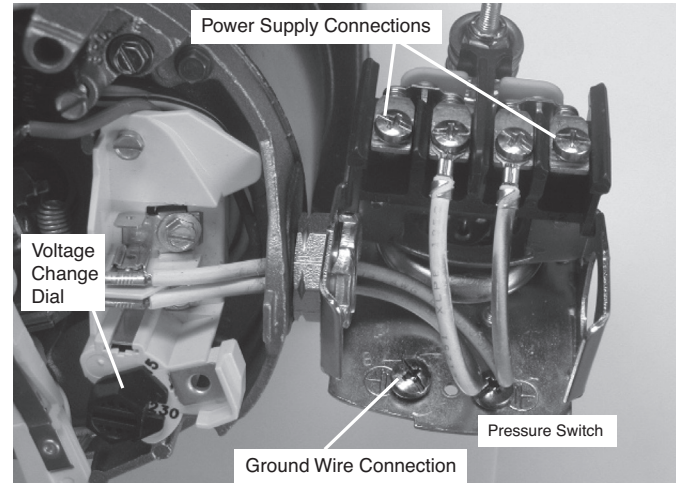

Figure 9: Voltage set to 230 volts, Dial Type
3. Attach the incoming power leads to the two outer screws on the pressure switch as shown in Figure 9.
4. Attach the ground wire to the grounding connections as shown in Figure 9.